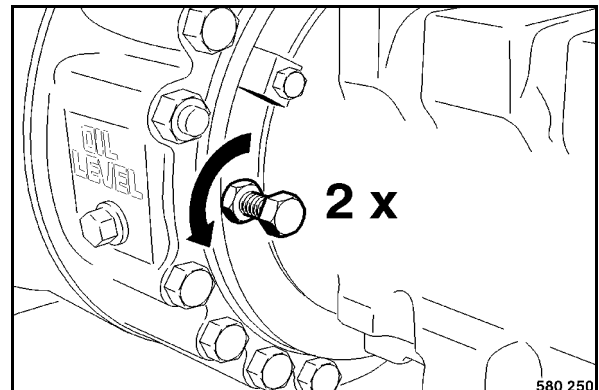

Fig. 114
- Unscrew the brake releasing screws (Fig. 114) for two turns and tighten the counter nuts.